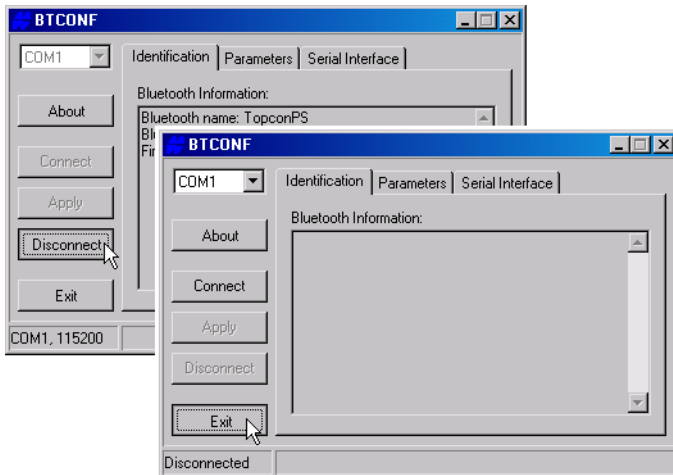

Figure 2-16. Click Disconnect then Exit
9. Click **Disconnect** then **Exit** (Figure 2-16) to quit BTCONF.